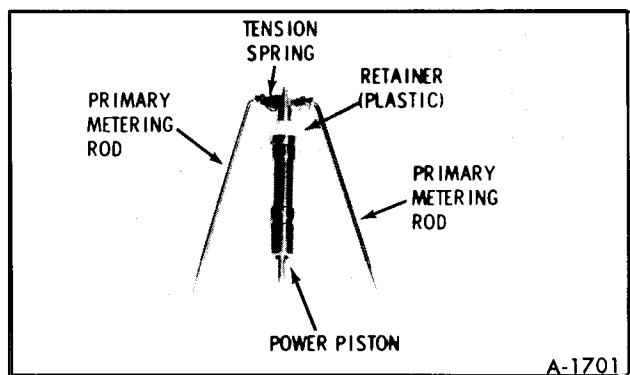

Figure 15—Power Piston and Metering Rod
6. The air horn assembly may now be removed from the float bowl by opening the throttle valve wide open and lifting up on the air horn and turning sideways until the pump rod disengages from the upper pump lever as shown in Figure 15.
6. Remove metering rods from power piston by disconnecting tension spring from top of each rod then rotating rod to remove from hanger as shown in Figure 15.
7. Install power piston spring into power piston well. If primary main metering rods were removed from hanger, reinstall making sure that tension spring is connected to top of each rod (figure 15). Install power piston assembly in well with metering rods properly positioned in metering jets. Press down firmly on plastic power piston retainer to make sure the retainer is seated in recess in bowl and the top is flush with the top of the bowl casting.